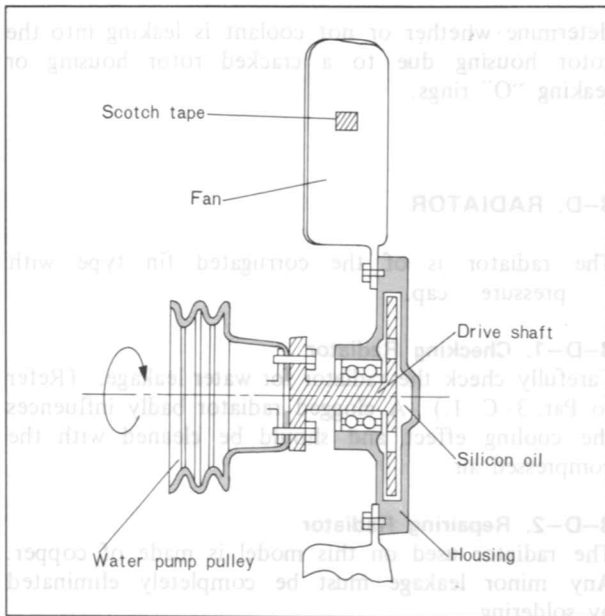

Fig. 3-4 Fan drive
As shown in Fig. 3-4, the fan drive is driven with the water pump pulley, and by the work of the silicon oil in the body, prevents the fan from marking more than a certain number of rotations.
1. Apply scotch tape to the positions on the fan as shown in Fig. 3-4.